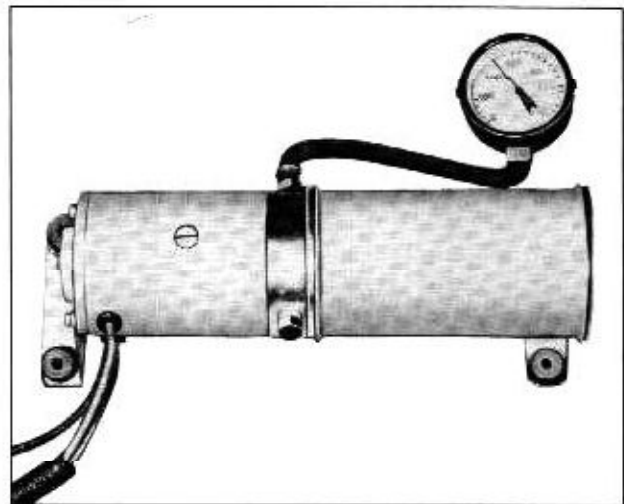

Fig. 17-156 Checking Pump Pressure
2. Install plug in one port, and pressure gauge in port to be checked. (Fig. 17-156)